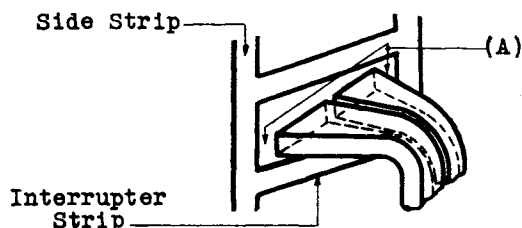

Fig. 3
- (a) Fig. 3 (A) - The contact portion of the lip of the interrupter springs shall not touch the side strips of the segments when the play of the commutator brush assembly is taken up in either direction for any position of travel of the commutator brush. Gauge by eye.